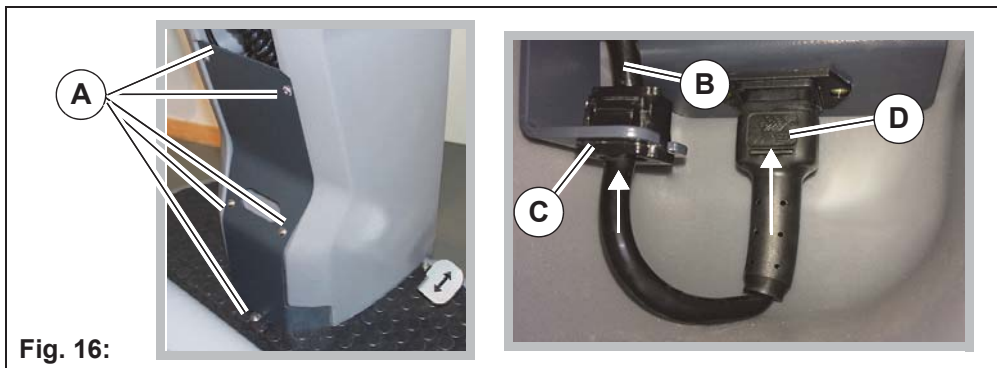

Fig. 16:
1. Loosen the bolts of the cover **Fig. 16-A** using the supplied socket wrench and remove the cover.
2. Route the cable of the mains plug **Fig. 16-B** through the opening in the bracket **Fig. 16-C**. Ensure that the side of the strain relief without a latch is facing the opening.
4. Plug the mains plug **Fig. 16-D** straight and firmly into the holder.